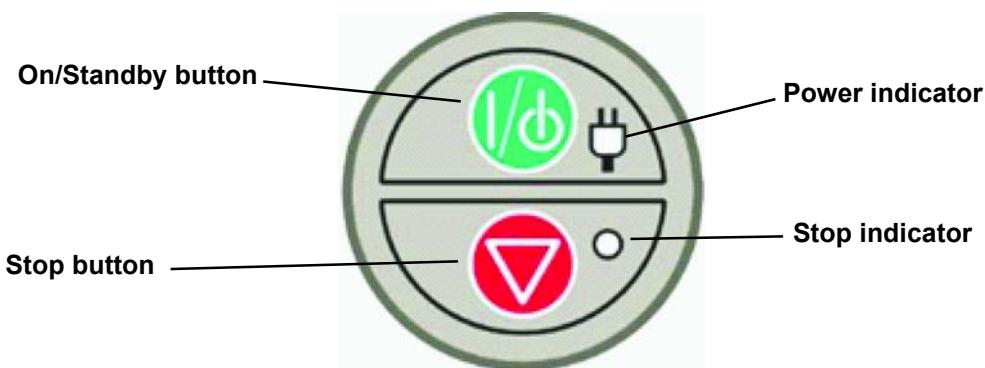

Figure 4-1 Power Control Panel
2. Press the **On/Standy** button for ½ to 1 second (see Figure 4-1).